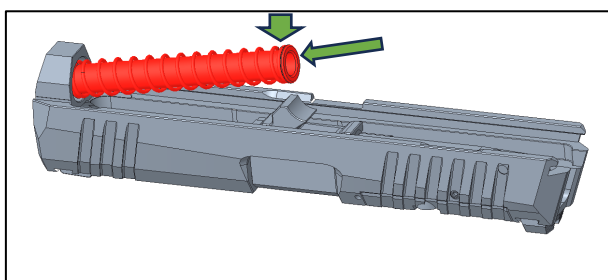

Figure 36: Compressing the recoil spring and placing the spring and guide in front of the barrel's guiding lug
3. Push the guide and the recoil spring forward into position, carefully compressing the recoil spring and positioning the wide end of the recoil spring guide in front of the barrel's guiding lug (Figure 36).